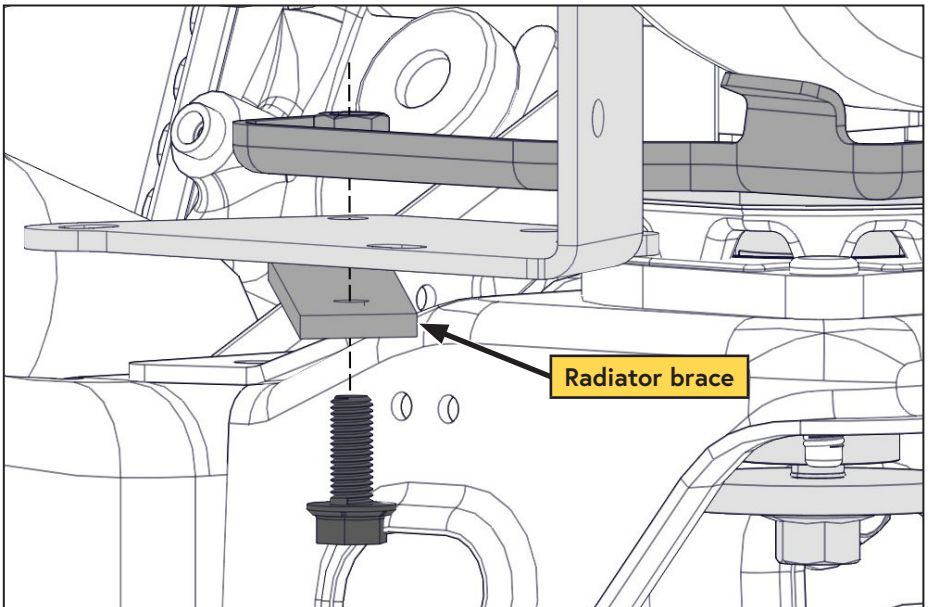

Figure 39 — Install cooler bracket
- ☐ Install the radiator brace and oil cooler bracket using the OEM fastener retained from the previous step; leave the fastener finger tight (Figure 39).